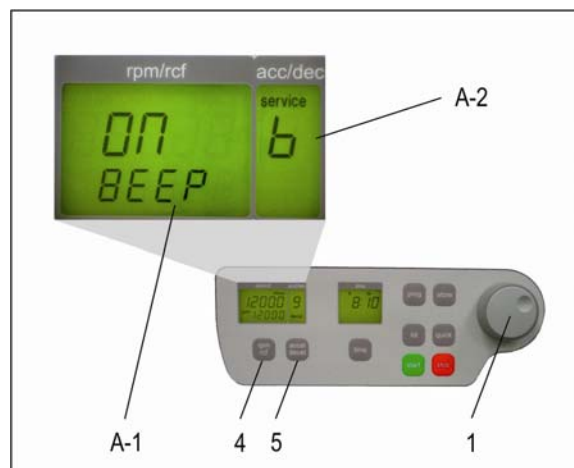

Figure 7
Proceed as described under point 1.7.1 to enter this program mode and then press the key „accel/decel“ (5). In the display „accel/decel“ (A-2) flashes the word „service“. Now select the letter „b“ with the adjusting knob (1). As a result appears in the display „rpm/rcf“ (A-1) the word „ON/BEEP“. After pressing the key „rpm/rcf“ (4), you can turn the keyboard sound (On) or (Off) with the adjusting knob (1). (see figure 7).